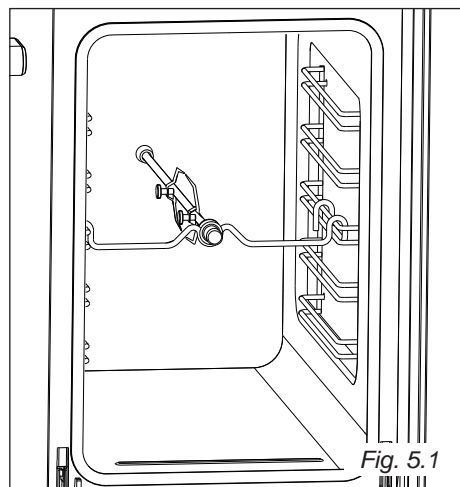

Fig. 5.1
USE OF THE ROTISSERIE (fig. 5.1)
- Insert the baking tray into the lowest rack holders of the oven and insert the rod support into the intermediate rack holders (fig. 5.1).
- Insert the rod into the motor opening (fig. 5.1). It is correctly fitted only if the rod does not turn when inserted. It will then rotate only when the spit motor is operating (check the right rotation of the rod).
- Rest the rod onto the support of the spit collar (fig. 5.1); then remove the grip by turning it to the left.